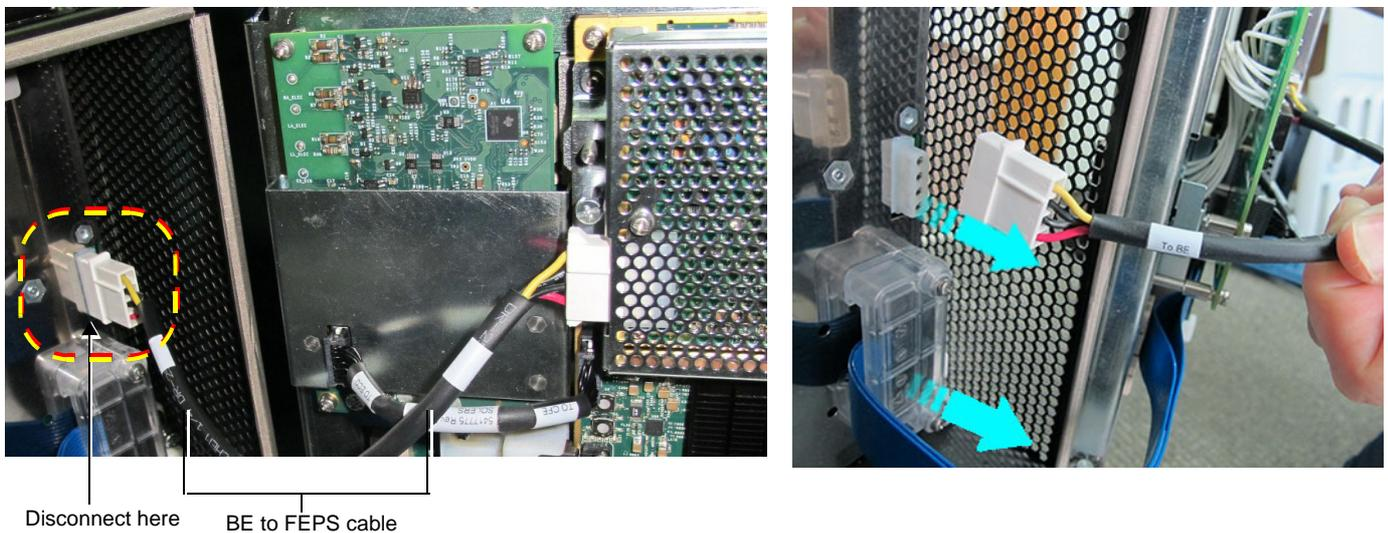

Figure 8-148 Disconnecting BE-to-FEPS Cable from Back End
3.) Release the HDR flat cable (BE-to-CFE cable) from the Back End. Refer to Figure 8-148 below.
4.) Disconnect the BE-to-FEPS cable from the Back End (also shown in Figure 8-148 below).
- 4) Reconnect the BE-to-FEPS cable to the BEP - refer to Figure 8-148.